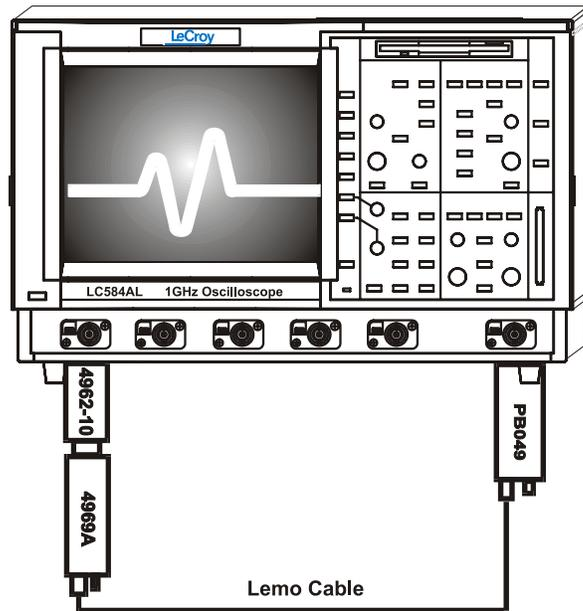

Figure 5-14 : 1MΩ Overshoot & Rise time Equipment Setup
- Terminate the output of the 4969A Pulser with the 4962-10 adapter (50Ω to 1MΩ) as shown in Figure 5-14.